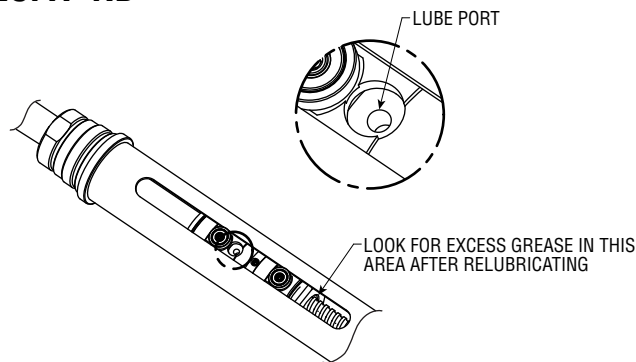

Figure A3
3. Insert the tip of a grease gun into the lube port of the ball nut (see Figure A3 and A4) and fill the piston assembly with the recommended grease.